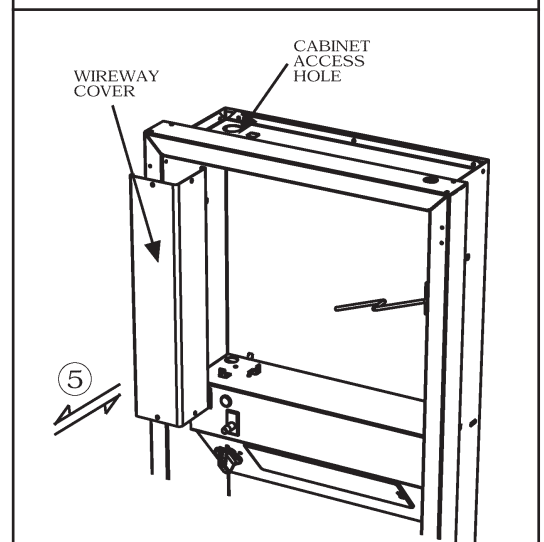

Fig. 2
5. CONNECT WIRING (Fig. 2) (AVD45 & AVD50 Series only)